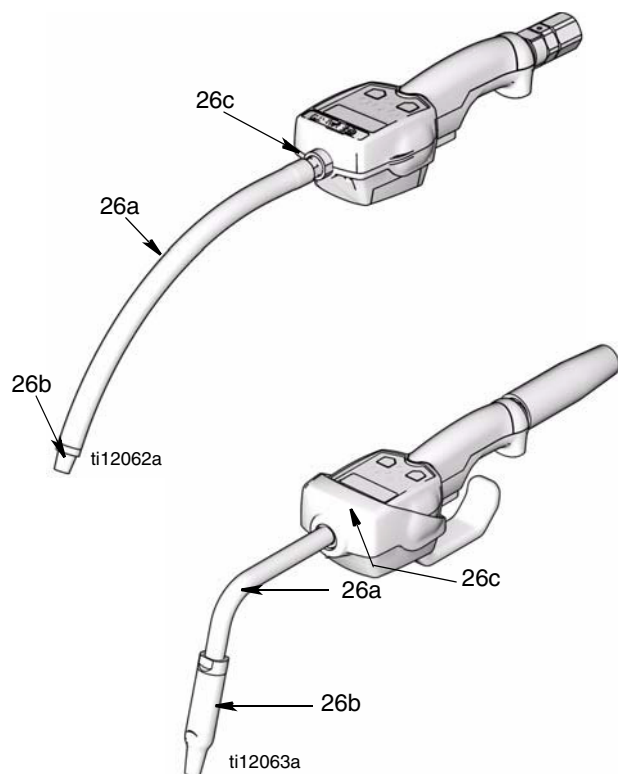

FIG. 6
2. Thread extension fitting (26c) into meter outlet at least three full turns. (FIG. 6).